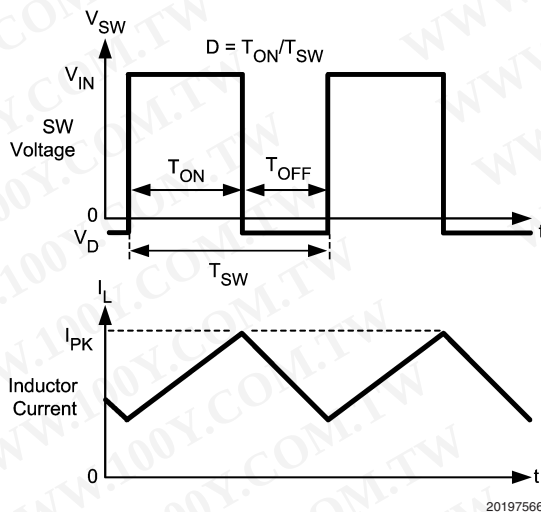

FIGURE 2. Typical Waveforms
The LM2832 is a constant frequency PWM buck regulator IC that delivers a 2.0A load current. The regulator has a preset switching frequency of 1.6MHz or 3.0MHz. This high frequency allows the LM2832 to operate with small surface mount capacitors and inductors, resulting in a DC/DC converter that requires a minimum amount of board space. The LM2832 is internally compensated, so it is simple to use and requires few external components. The LM2832 uses current-mode control to regulate the output voltage. The following operating description of the LM2832 will refer to the Simplified Block Diagram (Figure 1) and to the waveforms in Figure 2. The LM2832 supplies a regulated output voltage by switching the internal PMOS control switch at constant frequency and variable duty cycle. A switching cycle begins at the falling edge of the reset pulse generated by the internal oscillator. When this pulse goes low, the output control logic turns on the internal PMOS control switch. During this on-time, the SW pin voltage (V_{SW}) swings up to approximately V_{IN} , and the inductor current (I_L) increases with a linear slope. I_L is measured by the current sense amplifier, which generates an output proportional to the switch current. The sense signal is summed with the regulator's corrective ramp and compared to the error amplifier's output, which is proportional to the difference between the feedback voltage and V_{REF} . When the PWM comparator output goes high, the output switch turns off until the next switching cycle begins. During the switch off-time, inductor current discharges through the Schottky catch diode, which forces the SW pin to swing below ground by the forward voltage (V_D) of the Schottky catch diode. The regulator loop adjusts the duty cycle (D) to maintain a constant output voltage.